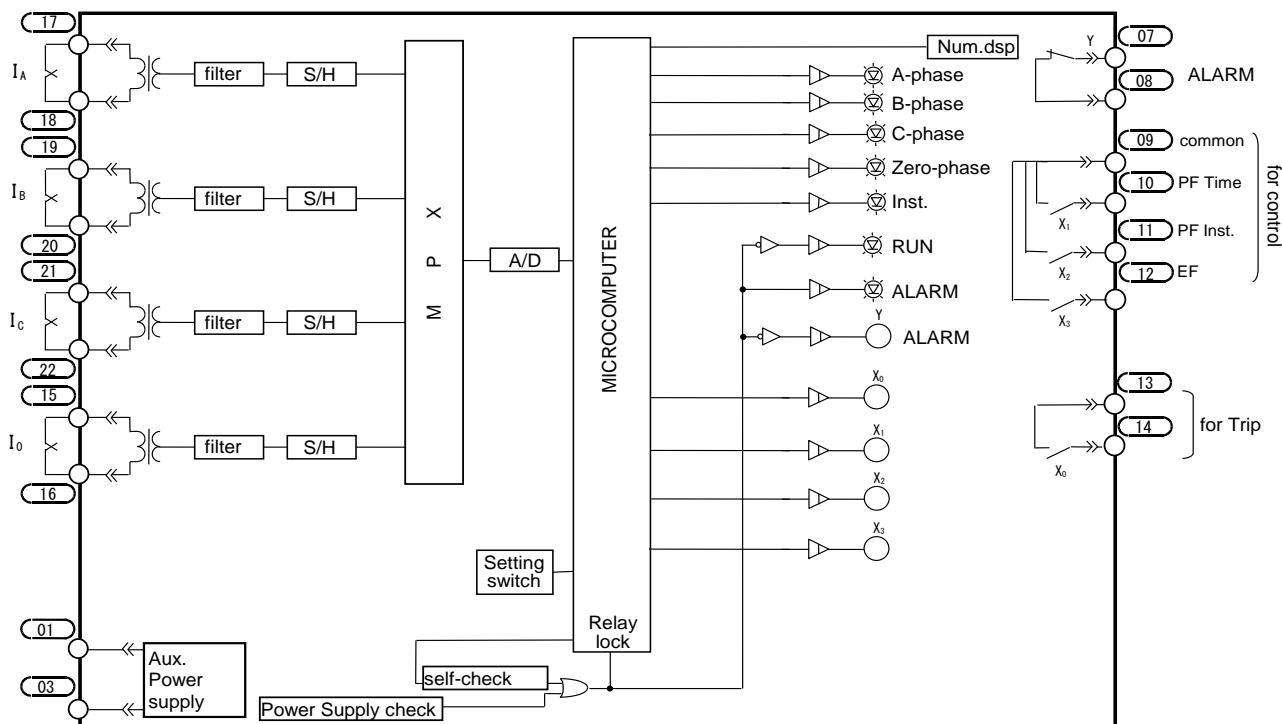

Fig. 5-1 Internal block diagram for COC4 relay
Fig. 5-1 shows the internal block diagram. The current values from power lines go through the current transformer (CT), filter circuits and sample hold (S/H) circuits. The multiplexer selects a channel to take the signal and sends it to an A/D converter. The signals are converted to digital signals sequentially in the converter to be sent to the CPU.